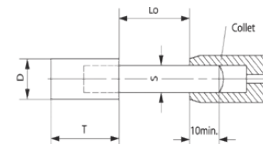

Figure 4
- Fig. 4: Clamping of mounted points